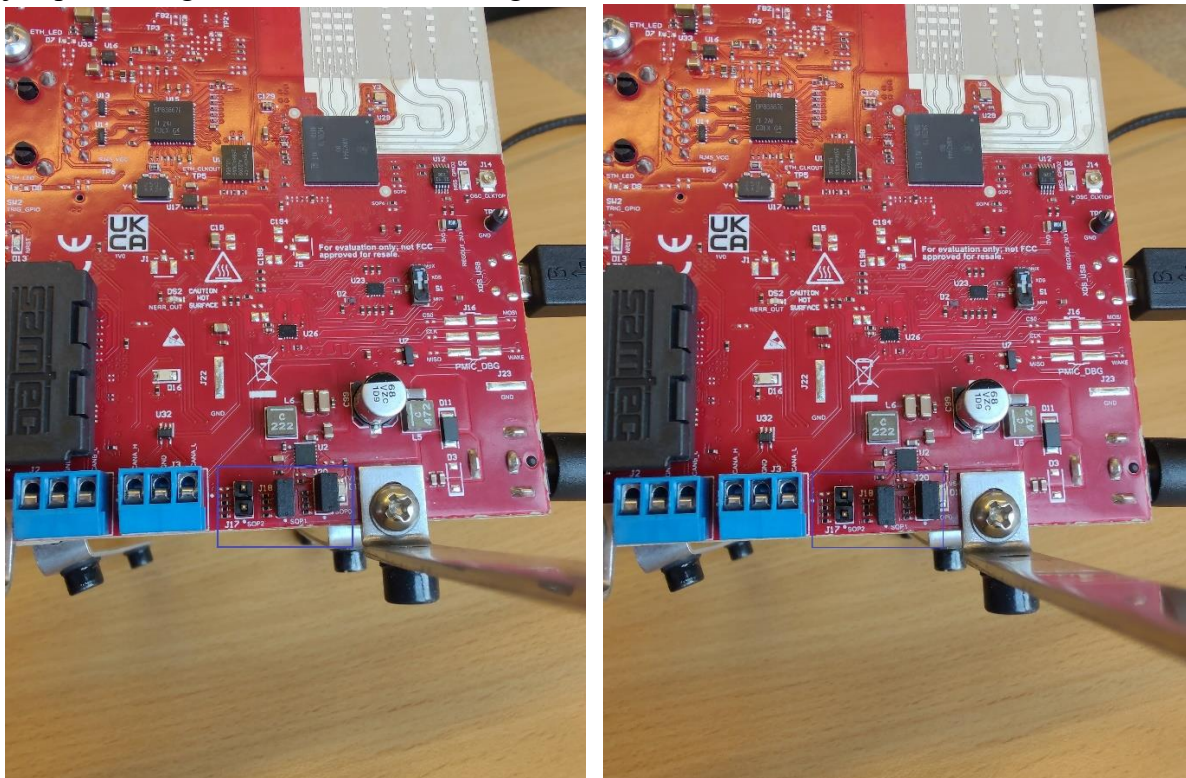

Figure 4: Jumpers J17, J18, and J20 on AWR2944 (the two pictures are just two different views)
- c. Jumpers J17 (SOP2), J18 (SOP1), J20 (SOP2) to put like in Fig. 4. This corresponds to the « SOP Mode 2 (Development mode) » configuration. Since a closed jumper is a logical 1 and an open jumper is a logical 0, this is a 011 configuration.